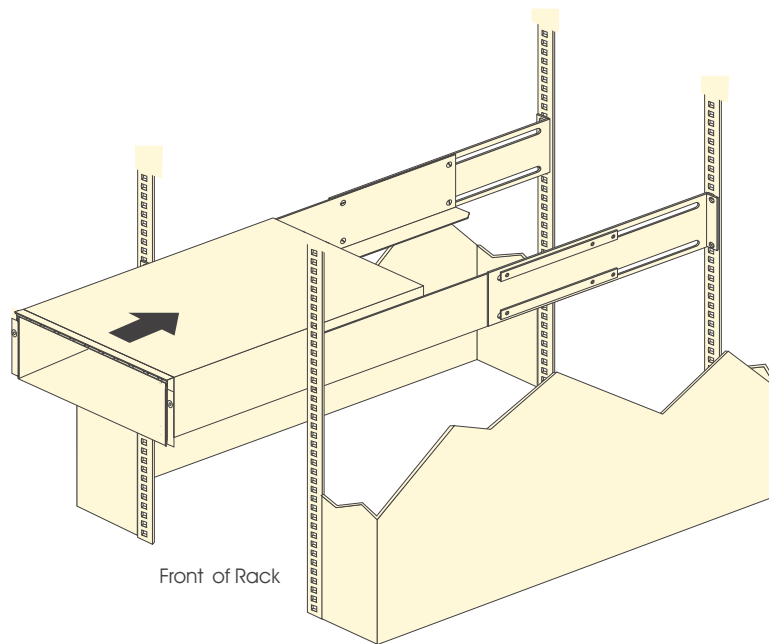

Figure 17. Installing the FAStT EXP100
- b. With help from another person, place the back of the expansion unit on the support rails. Slide the unit into the rack, as shown in Figure 17.